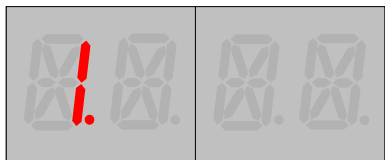
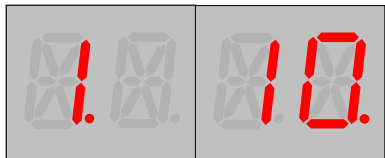

Figure 7a: Entering Settings Mode. SV 1 is displayed with decimal point to the right. No value shown while navigating among SVs.
Figure 7b: SV with its stored value. SV 1 has a stored value of 10. Stored value is indicated with decimal point to the right of the value.
Upon selecting **S** with the 3-way Mode Switch, the Defect Detector enters Settings Mode and will show SV 1, but not a value, on the Display. See **Figure 7a**. Axle Sensors are ignored while in Settings Mode.
While in Settings Mode, the Display shows the number of the current SV, followed by a decimal point. (See **Figure 7a**.) A value for an SV is shown to the right of this decimal point. (See **Figure 7c**.) If this value is the currently stored value for the SV, there is another decimal point to the right of the value. (See **Figures 7b** and **7d**.) Selecting either the **A** or **C** position on the 3-way Mode Switch will exit Settings Mode. The Defect Detector will immediately begin operation.
6. Pressing the SELECT pushbutton stops navigation among SVs and displays the stored value of the displayed SV. SV value can now be changed as described in “Changing SV Values” below. See **Figure 7b**.
2. Use UP and DOWN to increase or decrease the displayed SV value. See **Figures 7b** and **7c**.
- 6. Pressing the BACK pushbutton will stop display of values and return to navigating SVs as described above. See **Figure 7a**.